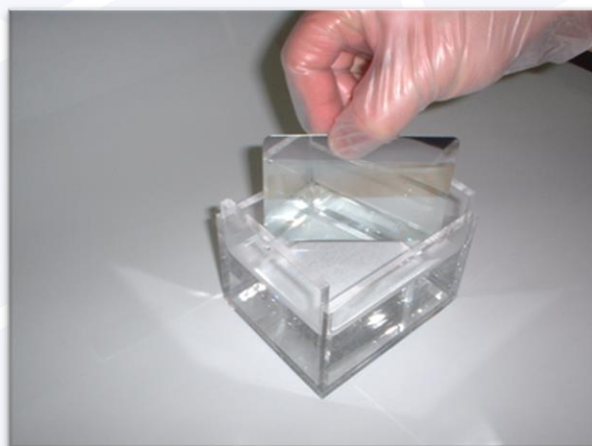

Figure 3
6. Upon completion of the test, remove the panel and thoroughly rinse under cold tap water. Next, half dip the panel for 4 seconds in a 0.5% solution of nitric acid to remove the yellow tarnished film on the zinc deposit surface. See figure 3.